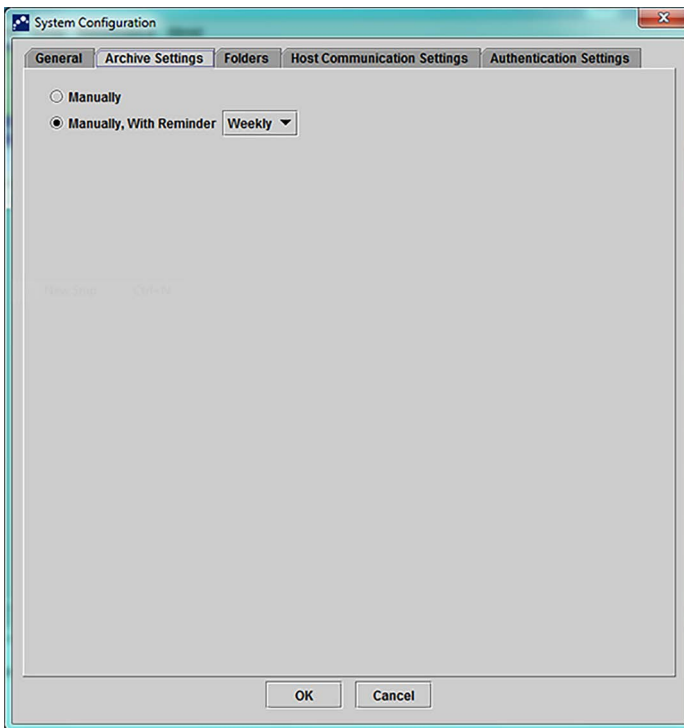

Figure 2-59. System Configuration Dialog Box (Archive Settings Tab)
1. In the GeneXpert Dx System window (see Figure 2-38), click **Setup** on the menu bar, then click **System Configuration**. The System Configuration dialog box and the **General** tab appears. See Figure 2-59.